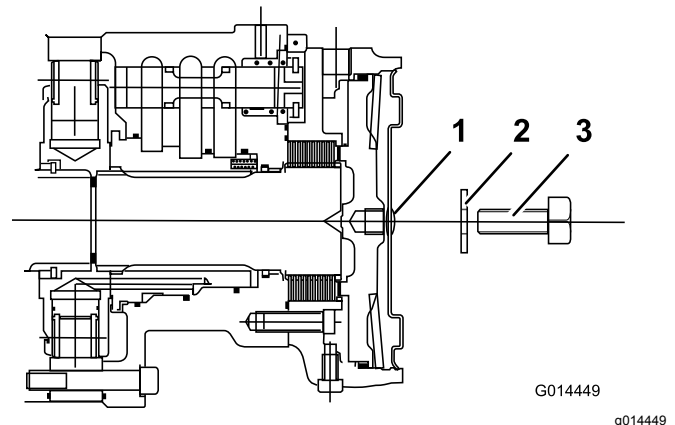

Figure 36
4. Install a M12 x 40 mm long setscrew with washer into the hole in the center of the motor end plate (Figure 36).
5. Tighten the setscrew into the threaded hole in the brake piston until the brake is released (Figure 36).
6. Identify the left front wheel motor disc brake assembly and repeat the previous procedure (Figure 36).